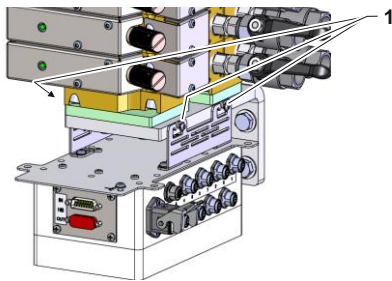

Fig. 1: Remove evaluation unit
- Detach screws (Label 1 → Fig. 1), remove evaluation unit with holder from Flow-5.
- Attach evaluation with holder to Flow-5 tightend screws (Label 1 → Fig. 1) .